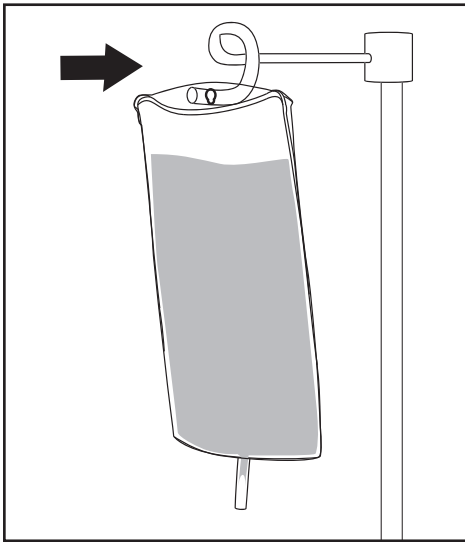

Figure 4. Hang the saline bag on IV pole.
2. Hang bag on an IV pole (Figure 4).